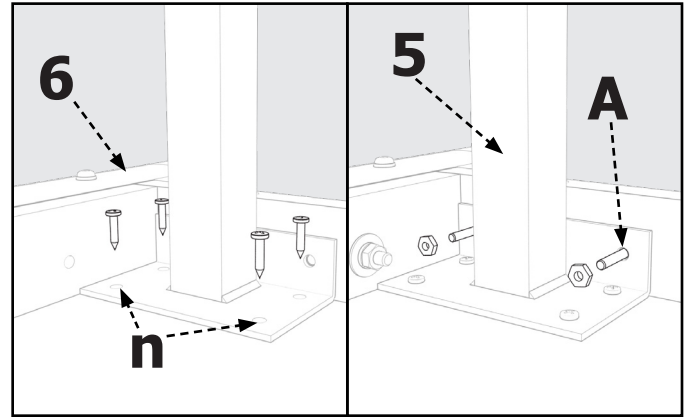

FIGURE 6
Attach the Table Legs (5) to the Extension Table (6) as shown in **Figure 6**.
1. Lay the Extension Table (6) upside down on the floor or on a bench.
2. Position the Table Leg (5) in the corner of the Extension Table (6) as shown in **Figure 6**.
3. Attach the Table Leg to the Table Board with four #8 x 3/4" Wood Screws (n). Drill a 1/4" hole through the two holes in the Bracket (A) and through the Table Skirt. Secure the Table Leg to the Table Skirt using 10-32 x 1-3/4" Pan Head Bolts (m), 7/32 x 1/2" Flat Washer (h), and #10-32" Hex Nut (k).